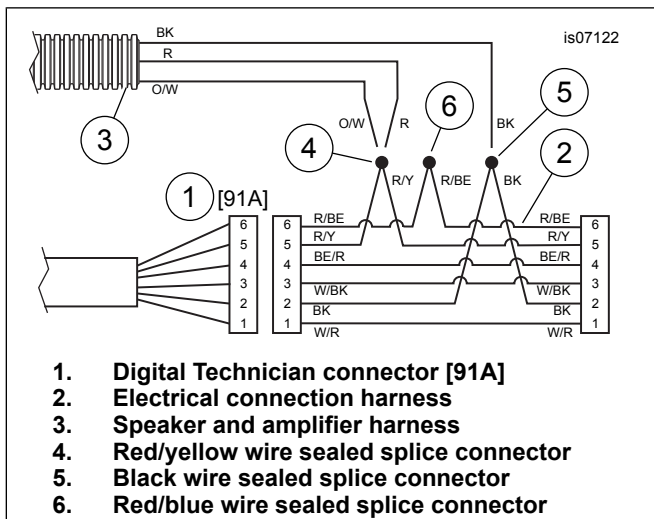

Figure 4. Wiring Diagram, Speaker/Amplifier Harness to Electrical Connection Harness
- a. See Figure 4. Locate the Digital Technician connector [91A] (Item 1, a gray six-way Deutsch connector with a rubber boot) under the seat. Place the Electrical Connection Harness (2) at the Digital Technician connector, but DO NOT connect them at this time.
- b. Route the speaker and amplifier harness (3) wires over to the Electrical Connection Harness. Cut the speaker and amplifier wires to a suitable length to easily reach the sealed splice connectors (4 and 5) on the Electrical Connection Harness.
- c. Splice both the red and the orange/white speaker and amplifier wires to the **red/yellow** wire sealed splice connector (4) in the Electrical Connection Harness.
- d. Splice the black speaker and amplifier wire to the **black** wire sealed splice connector (5) in the Electrical Connection Harness.
- f. Use the heating device to seal the open end of the sealed splice connector (6) on the **red/blue** wires in the Electrical Connection Harness.
4. See the service manual for detailed instructions on sealed splice connections. If wire harness (part no. 69200722) was previously spliced, cut off existing splices. See Figure 4 for multiple splice configuration. If wire harness (part no. 69200722) was spliced in a prior install, make sure the 8-way Molex connector is disconnected from vehicle connector [4].
4. See the service manual for detailed instructions on sealed splice connections. If wire harness (part no. 69201599) was previously spliced, cut off existing splices. See Figure 4. for multiple splice configuration. If wire harness (part no. 69201599) was spliced in a prior install, make sure the 3-way Molex connector is disconnected from vehicle connector [325B].